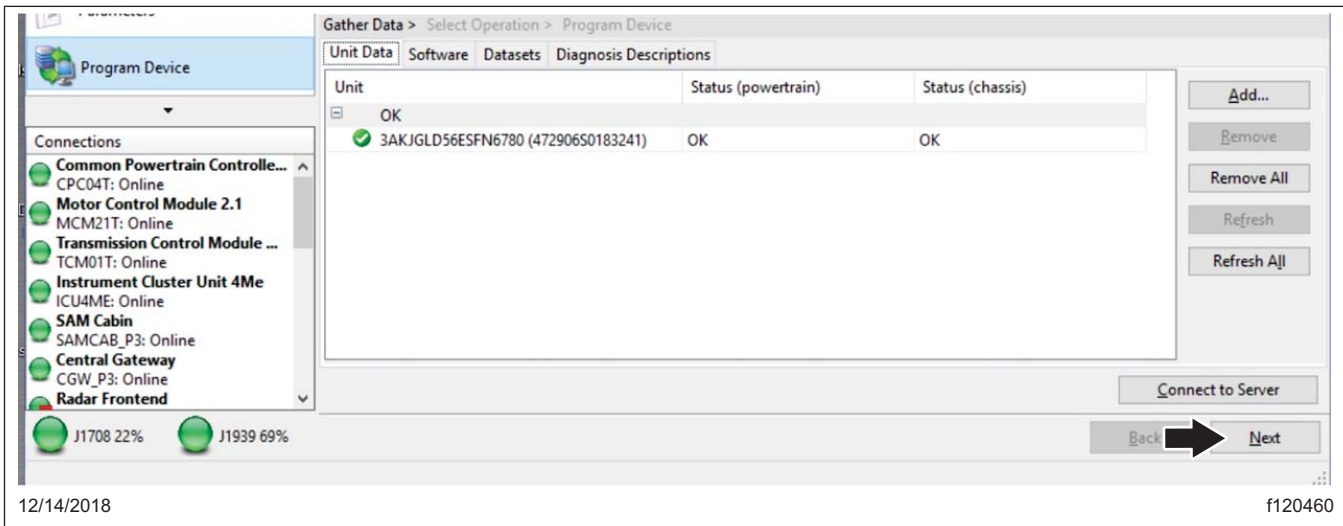

Fig. 9, Clicking Next
- Once the data has been downloaded, click "Next". See Fig. 9.